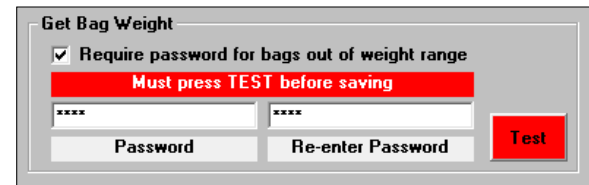

Figure 5. Enter the password twice. Press Test to ensure the password is valid.
4. Enter the new password in the **Password** field, and enter it again in the **Re-enter Password** field (see Figure 5).